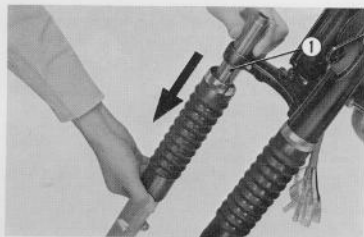

Fig. 4.20 Removing front cushion
① Fork top bridge plate
2. Disassemble the front cushion ① in accordance with 4.3.B. (Fig. 4.20)